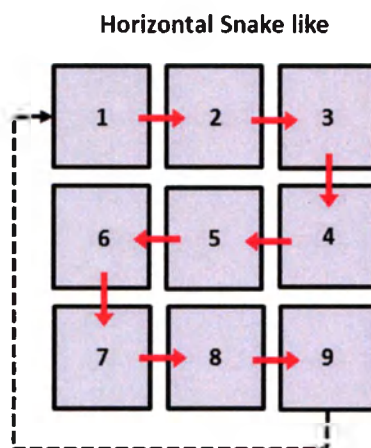

Figure 30: Cycle 1-Step #1 “Horizontal Snake-Like”
- Treat each segment from 1 to 9 in the “**Horizontal Snake-Like**” manner (see Figure 30) with four consecutive stacking pulses, then three consecutive stacking pulses and then two consecutive stacking pulses. Continue treating each segment of the sub-area (from 1 to 9) with two stacking pulses in the “**Horizontal Snake-Like**” manner until the treated area reaches two full minutes of treatment.